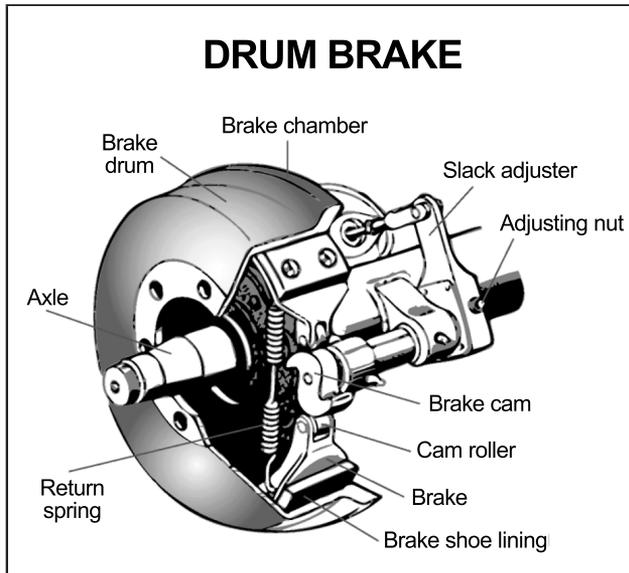

Figure 5.2
**S-cam Brakes.** When you push the brake pedal, air is let into each brake chamber. Air pressure pushes the rod out, moving the slack adjuster, thus twisting the brake camshaft. This turns the S-cam (it is shaped like the letter "S"). The S-cam forces the brake shoes away from one another and presses them against the inside of the brake drum. When you release the brake pedal, the S-cam rotates back and a spring pulls the brake shoes away from the drum, letting the wheels roll freely again. See Figure 5.2.